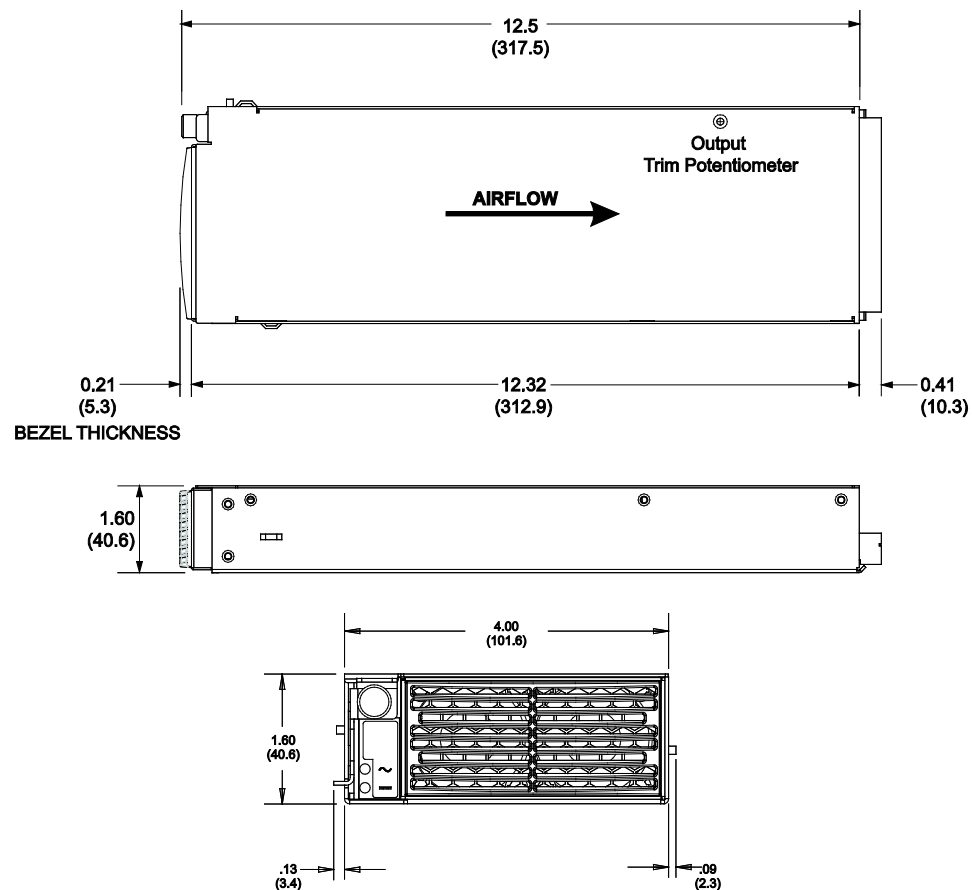

Figure 4 – auro-he Module Dimensions
12.4 Output Voltage - The output voltage is factory set to its nominal value to an accuracy of $\pm 1\%$. The voltage can be adjusted to any value within the range $\pm 5\%$ of nominal using the trim potentiometer (see figure 4 on page 13) or the remote adjust input (section 9.2.5).